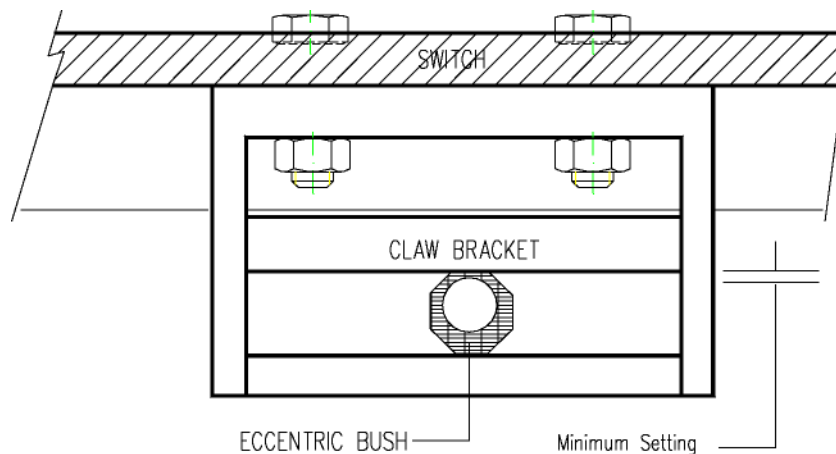

Figure 1.6 - Positioning of eccentric sliding bush
6. Fit the correct handed claw (5) or (6) (the hook on the pivot end of the claw fits around the coupling bar) into the notch in the coupling bar and move both until the claw fits over the claw bracket on the switch.
7. Fit the eccentric sliding bush (7) into the slot in the claw bracket and into the claw with the hole in the bush as close as possible to the switch. Refer to figure 1.6. Fit the claw pin (8) but do not fit the claw pin retaining cap and screw (9) and (10).